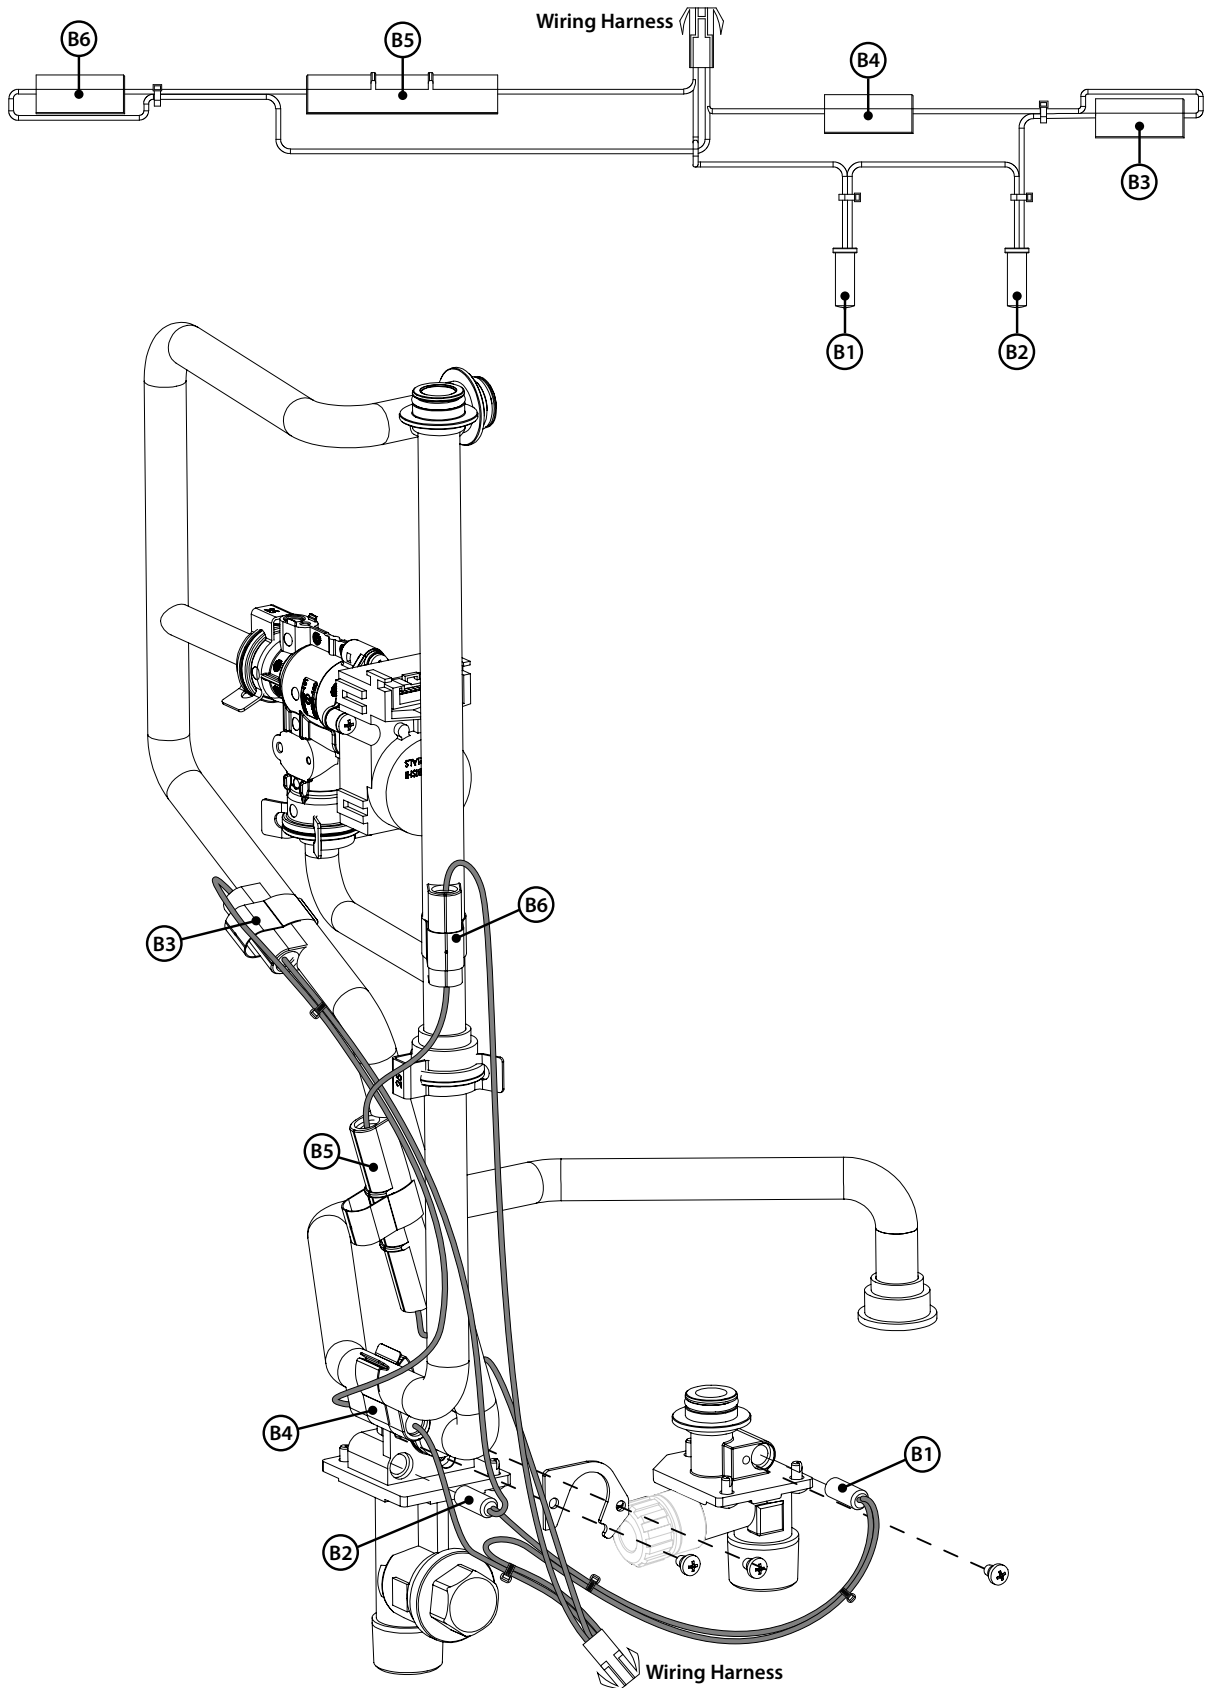

Figure 27 - Lower connection reference guide
- 16 Heater blocks B3 - B6 use a compression style clip as shown in Figure 27. Remove the compression clips and set aside in a safe place for reinstallation.
- 21 Reconnect heater blocks B3 - B6 using the clips removed in **Step 16**. Use Figure 27 for location reference.
- 22 Reconnect heater block B2 using the C clip and screws removed in **Step 17**. Use Figure 27 for location reference.
- 23 Reconnect heater block B1 using the screws removed in **Step 18**. Use Figure 27 for location reference.
- 24 Reconnect heater block lower wiring harness and security clip removed in **Step 15**. Use Figure 27 for location reference.